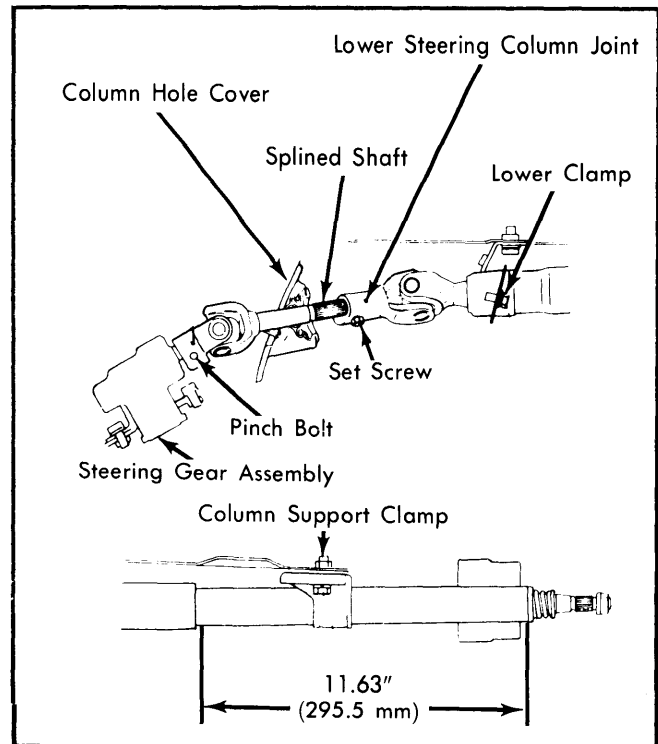

Fig. 1 Datsun F10 Steering Column Assembly
4) Measure distance between top end of upper column tube and top end of lower column tube. Distance should be 11.63" (295.5 mm). See Fig. 1.
5) On 810 models, measure distance between top end of upper column tube and top end of lower column tube. Distance should be about 16.27" (413.5 mm). See Fig. 1.